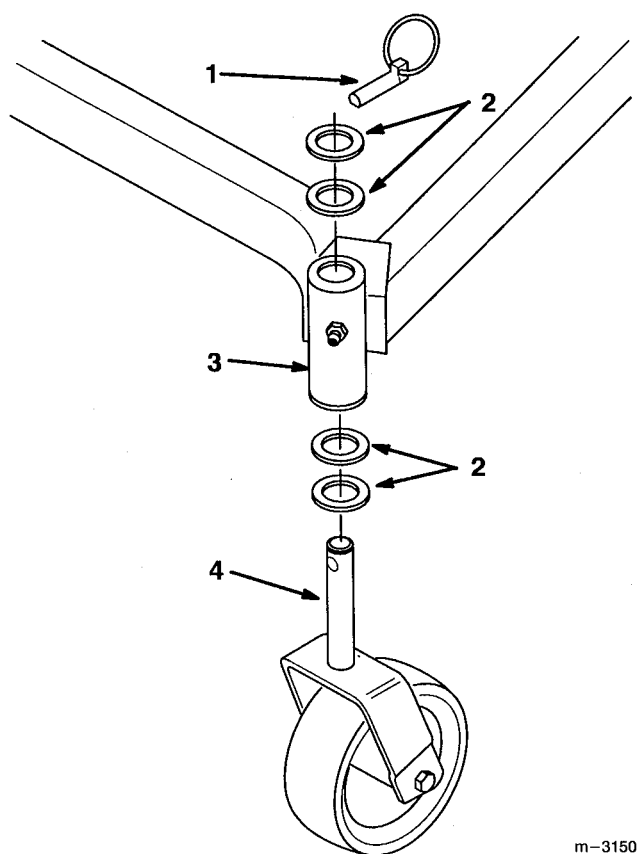

Figure 15
4. To change the front-to-rear pitch, move an equal number of thrust washers on both castor wheel forks. Move the thrust washers from the top of the carrier frame mounting tube to the bottom to raise the front of the mower. Move the thrust washers from the bottom of the mounting tube to the top to lower the front of the mower. (Fig. 15).
4. To change the side-to-side leveling, move the thrust washers on one castor wheel fork only. Move the thrust washers from the top of the carrier frame mounting tube to the bottom to raise the corresponding side of the mower. Move the thrust washers from the bottom of the mounting tube to the top to lower the corresponding side of the mower. (Fig. 15).